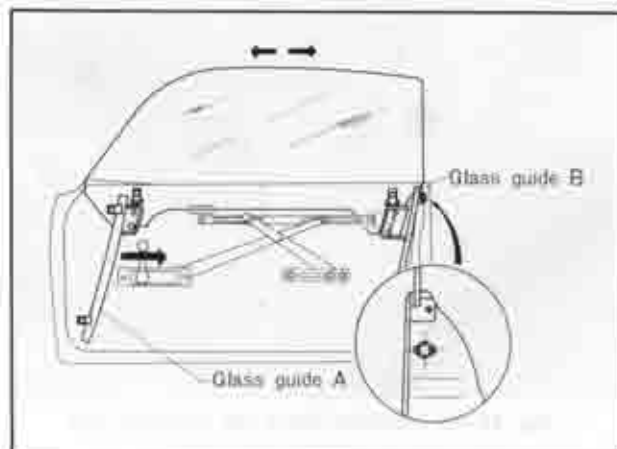

Fig. 14-62 Fore and aft adjustment
2. Push rearwards the glass guide A as shown in Fig. 14-62 and tighten the upper bolt.